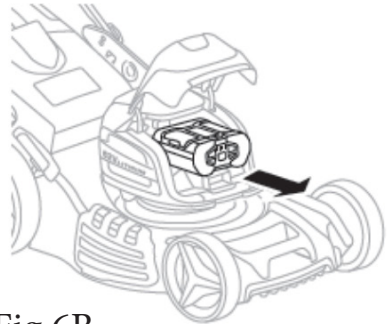

Fig.6B
- 3) Remove battery pack from the product. (Fig.6B)